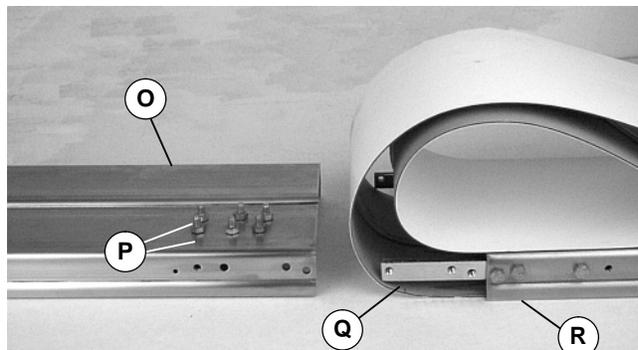

Figure 5
1. Typical components (Figure 5)